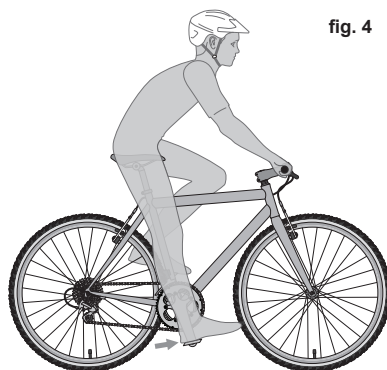

fig. 4
**1. Up and down adjustment.** To check for correct saddle height (**fig. 4**):